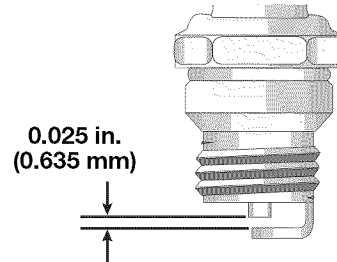

Fig. 31
3. Replace a cracked, fouled or dirty spark plug. Set the air gap at **0.025 in. (0.635 mm)** using a feeler gauge (Fig. 31).